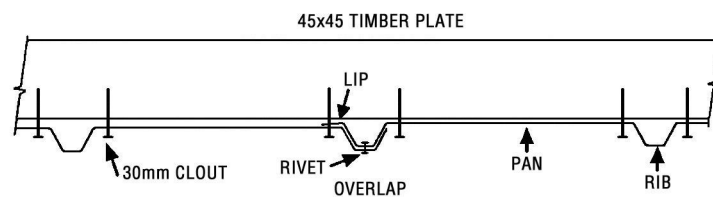

fig. 1
Step 2: Back Wall: Position the first Wall Sheet with the LIP on the right hand side. Ensuring the LIP is flush with the side of the corner Stud and the top of the Wall Sheet is 45mm down from the top plate, tack in place. Position the next Wall Sheet with the LIP on the right hand side. Overlap as shown in *fig 1 pg 6*. Ensuring Wall Sheet is 45mm down from the top plate, tack in place.